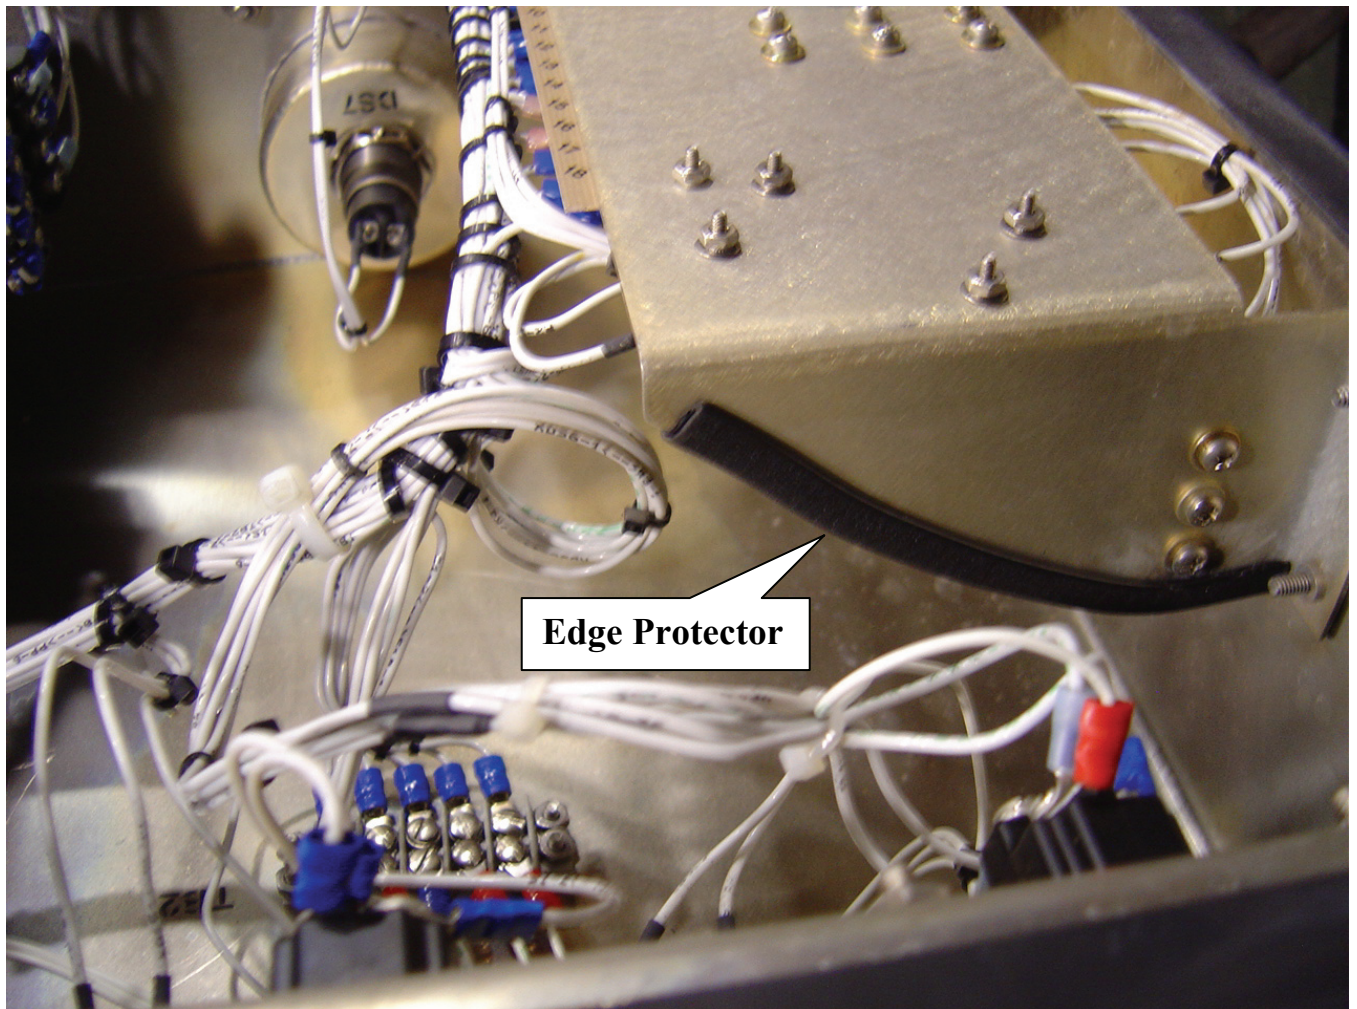

Fig 3
1. Install edge protector on CCA bracket as shown in Figures 3 and 6.